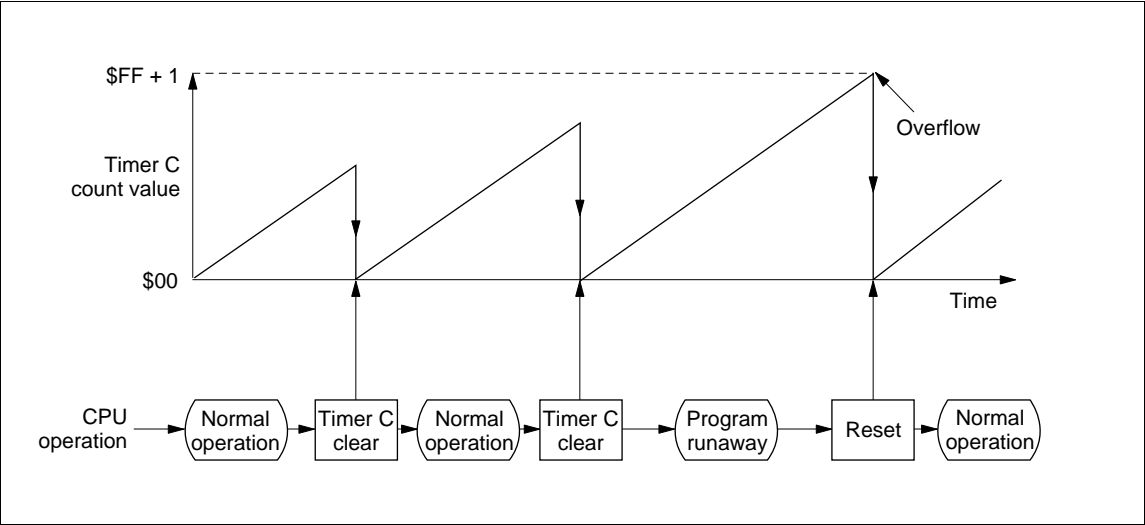

Figure 41 Watchdog Timer Operation Flowchart
- Watchdog timer operation: Timer C is used as a watchdog timer for detecting out-of-control program routines by setting the watchdog on flag (WDON: \$020, bit 1) to 1. If a program routine runs out of control and an overflow is generated, the MCU is reset. The watchdog timer operation flowchart is shown in figure 41. Program run can be controlled by initializing timer C by software before it reaches \$FF.